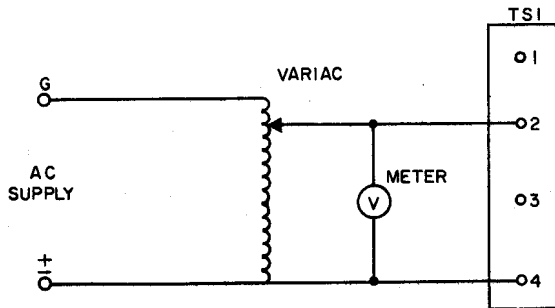

Fig. 1 - Test Circuit Connections for SD-81010-01, SD-81010-03, and SD-81010-04
4.01 Aged or low electron tubes may be detected by checking the regulation performance of the rectifiers periodically as follows. Insert the Variac, etc, into the ac line input of the rectifiers. (See Fig. 1 and 2.) Operate for a few minutes at normal line voltage and then drop the line voltage to the lower limit. The output voltage and the output current should not change. If any change is observed,